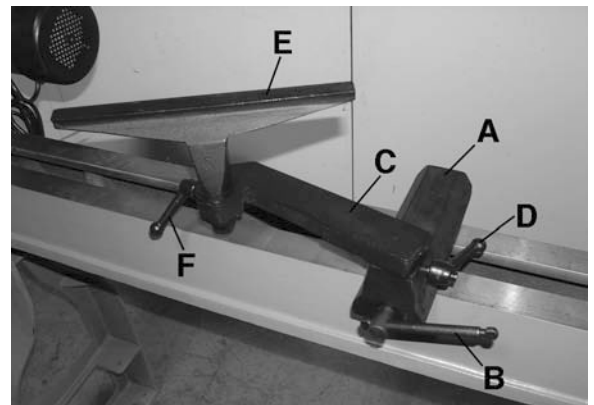

FIGURE 4
1. Install the tool rest base (A) Fig.4 to the lathe bed using the provided slotted clamp and large hex. nut, to allow for adjustment, do not fully tighten hex. nut.
2. Secure the tool rest base by turning the tool rest base lock lever (B). If the lock lever will not lock the tool rest base down onto the bed, loosen or tighten the hex. nut (located on the underside of the tool rest base) in small increments to achieve proper clamping pressure.
3. Insert the tool rest arm (C) into the tool rest base and fix it in place using the lock handle (D).
4. Insert the tool rest (E) into the tool rest arm and fix it in place using the lock handle (F).